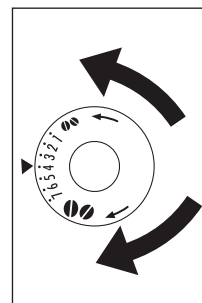

Fig. 40
- ▶ For slower delivery and creamier coffee, turn one click anticlockwise (finer pre-ground coffee). For faster delivery (not a drop at a time), turn one click clockwise (coarser pre-ground coffee) (Fig. 40).